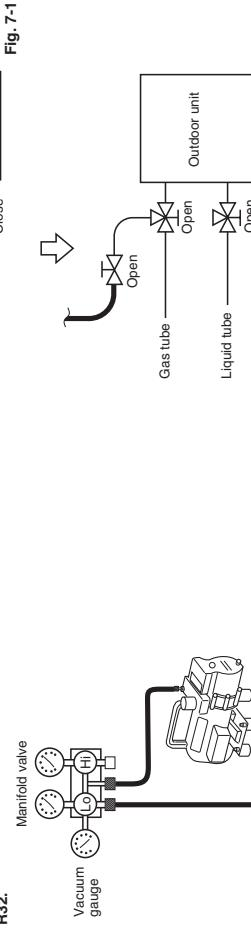

Fig. 7-2
- Use a balance to measure the refrigerant amount cannot be charged at once. Charge the remaining refrigerant in liquid form by using the gas tube service valve with the system in Cooling mode at the time of test run. (Fig. 7-2)